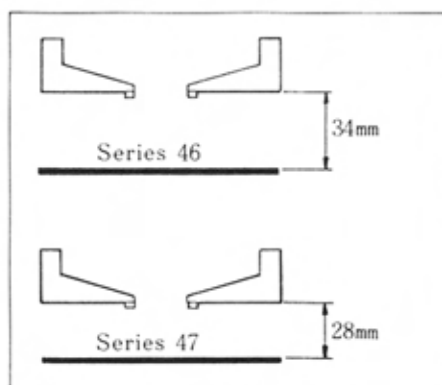
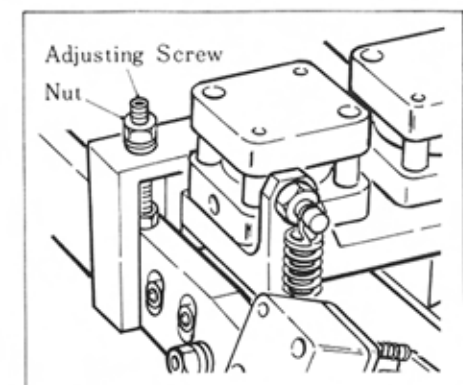

Figure 11
Figure 12
- (b) **Series 46:** The clamp height may be approximately 34mm (see Figure 11) from the bedplate to the bottom of the clamp foot. The clamp height adjusting screws are at the rear of the clamp arms.
- Series 47:** The clamp height may be approximately 28mm (see Figure 11); caution must be exercised to avoid raising the clamps too high which would cause interference between the flap clamps and the underside of the machine head (see Figure 12).